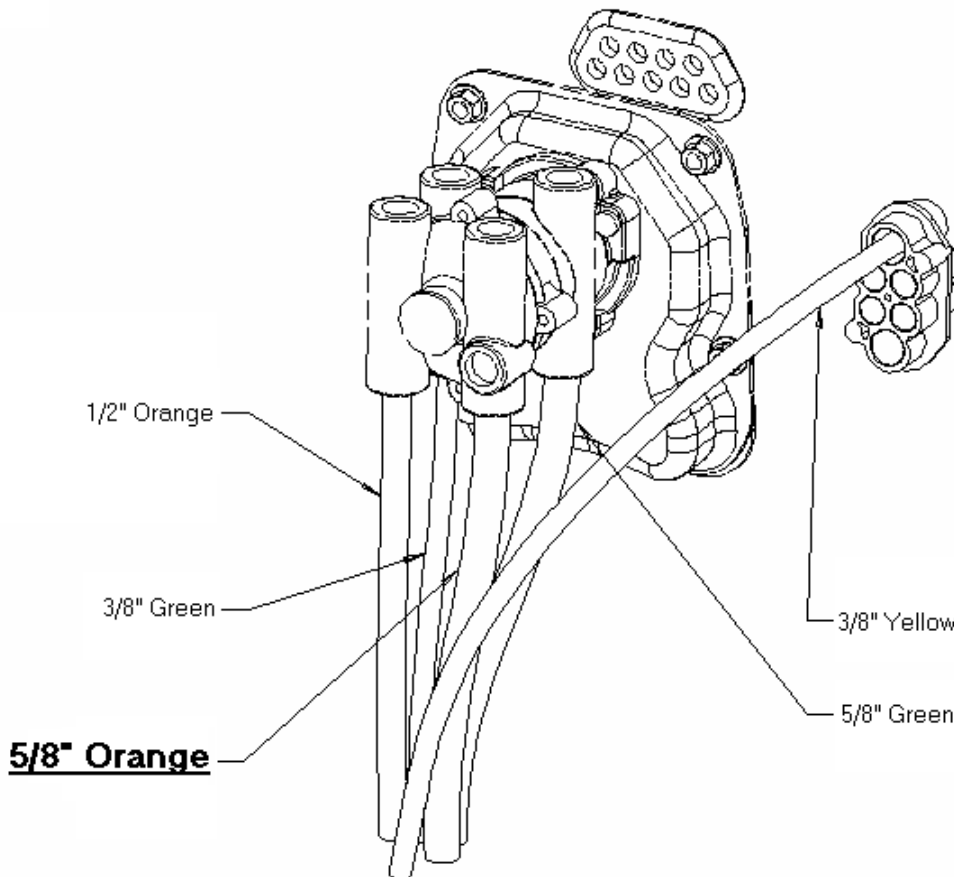
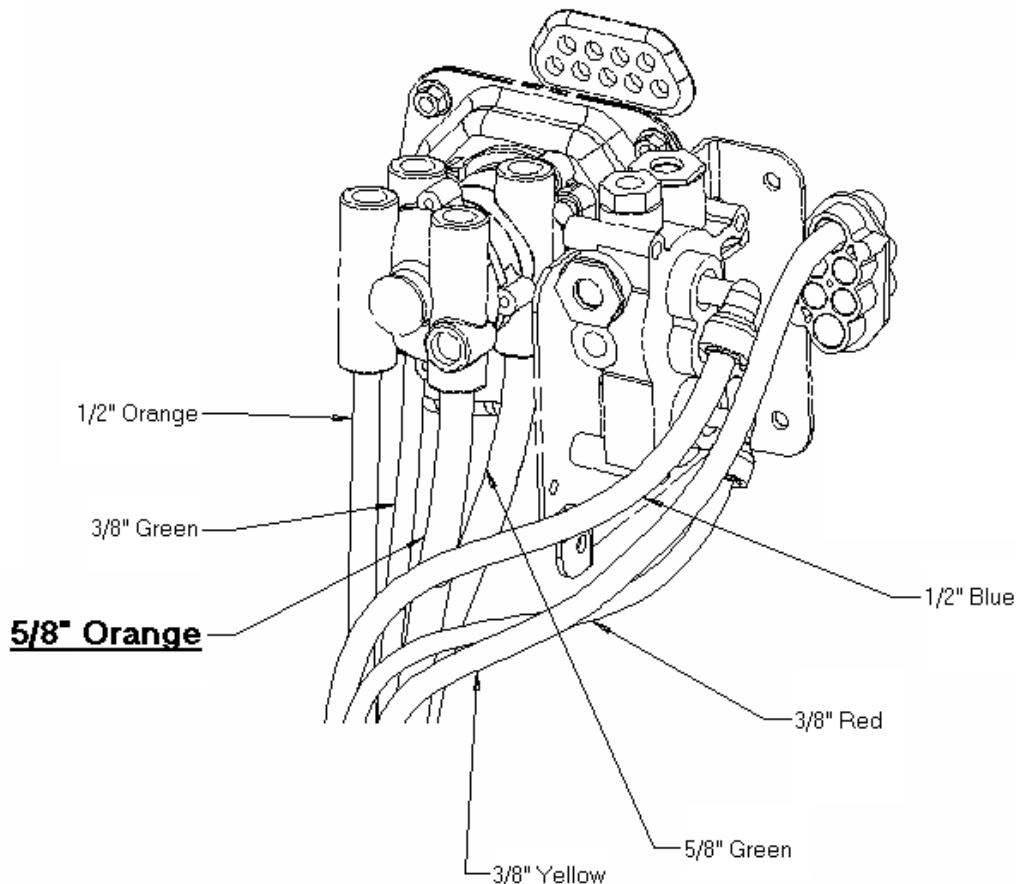

Figure 2 (Truck)
Figure 3 (Tractor)
5. Remove 5/8" orange tubing from brake treadle (foot) valve. See **Figure 2** for Trucks and **Figure 3** for Tractors.